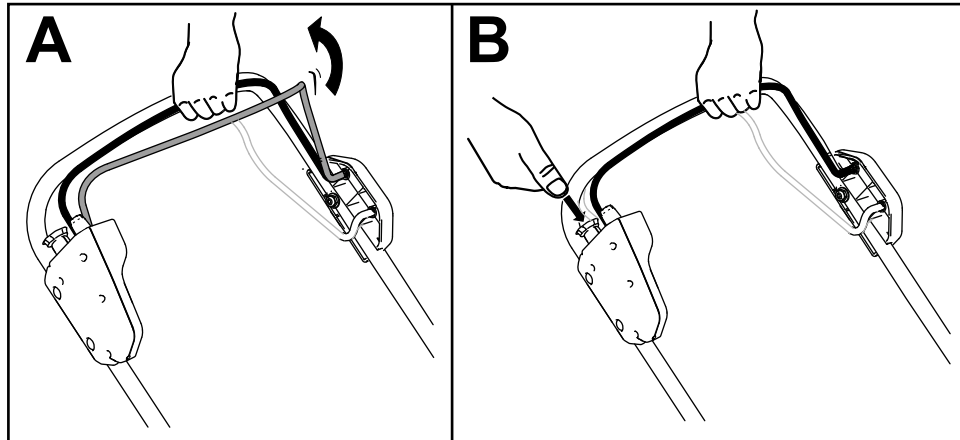

Figure 13
2. Squeeze the blade-control bar and hold it to the handle (A of Figure 13).
3. Press the electric-start button and keep it pressed until the motor starts (B of Figure 13).